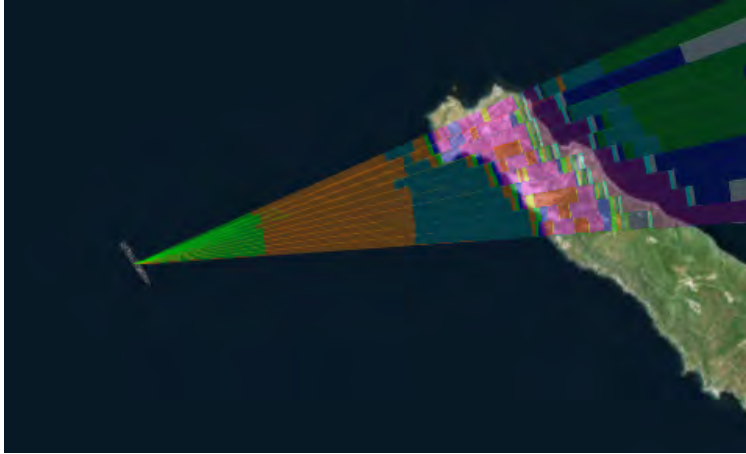

Figure 5.80: 3D Texture using Gradient color
10. Change the **Colors** under the **Color Settings** from **Above and Below** to **Gradient**. The different colors displayed is the ratio of the clutter-power to the noise-level, shown in Figure 5.80.